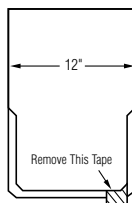

Figure 18-15:
- Before nailing, be sure to remove the protective tape from the sealant between the cap's two layers (see Figure 18-15).